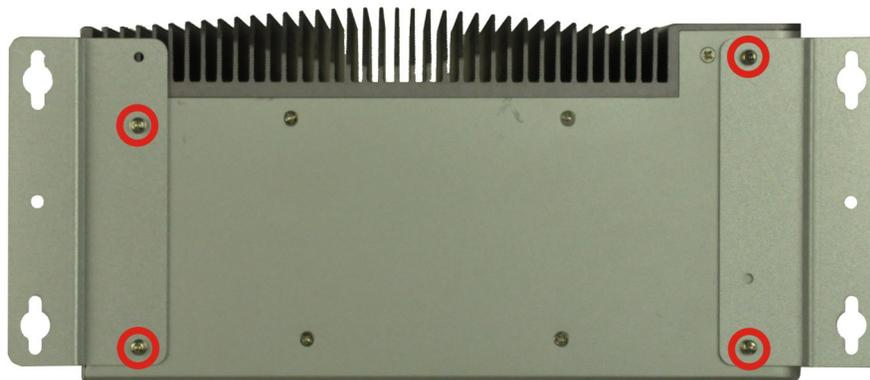

Figure 3-9: Mounting Bracket Retention Screws
Step 2: Align the two retention screw holes in each bracket with the corresponding retention screw holes on the bottom surface or the left side panel (**Figure 3-9**).
Step 3: Secure the brackets to the system by inserting two retention screws into each bracket (**Figure 3-9**).